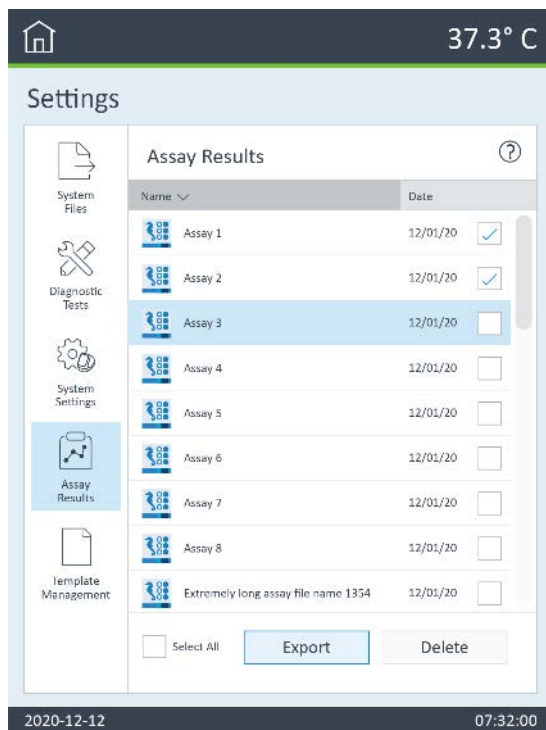

Figure 25. Assay results view.
- Assay results:** Individual assay results can be viewed by clicking the small check box next to the result file to view and click **View**. See Figure 25.